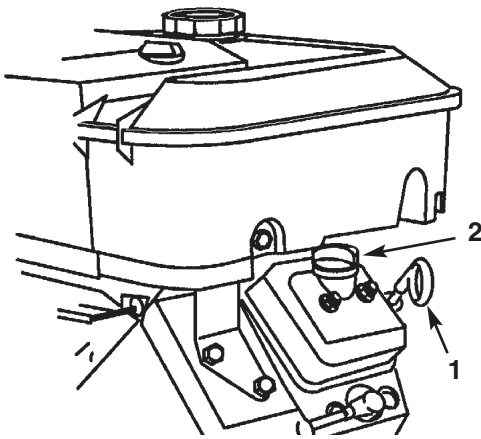

Figure 2
2. Remove the dipstick and wipe it with a clean cloth (Fig. 2). Insert the dipstick into the tube and make sure it is seated fully. Remove the dipstick and check the level of oil.